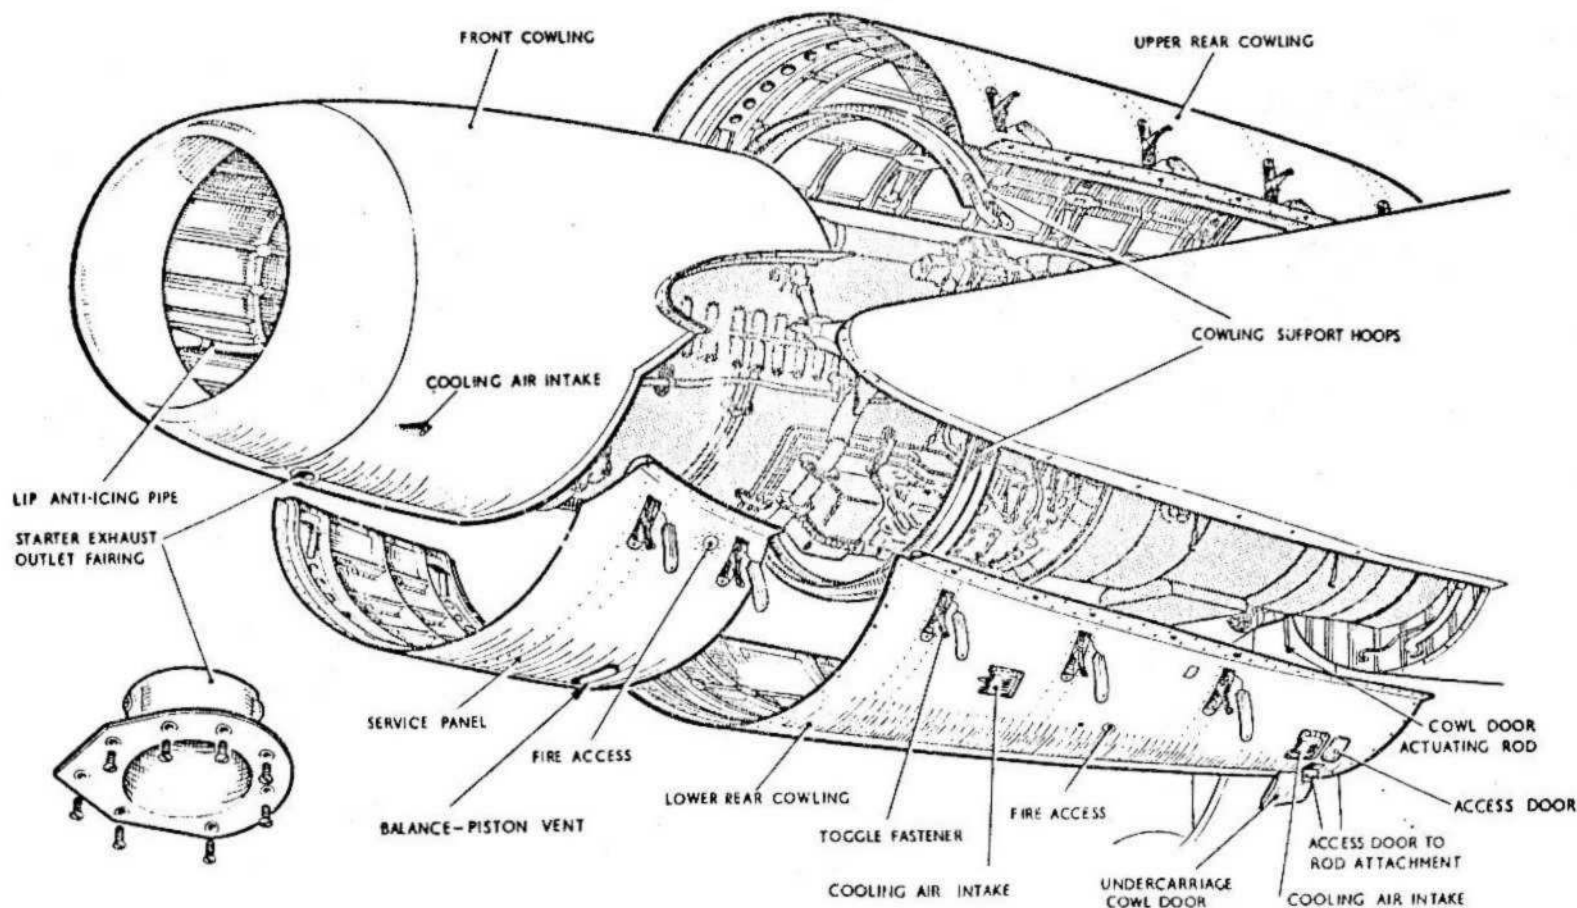
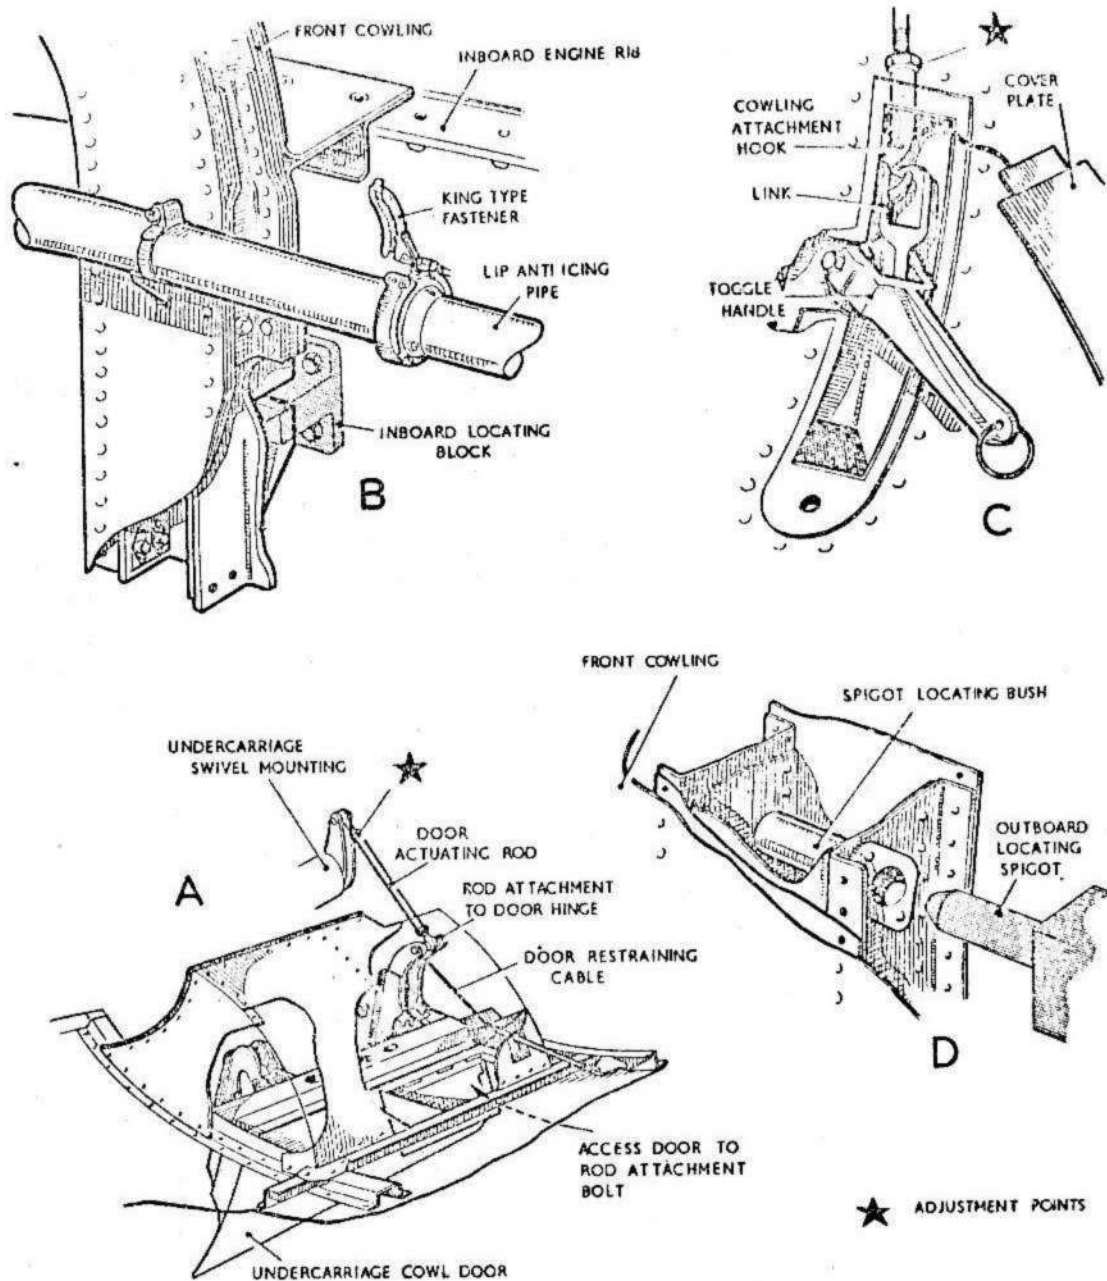

Fig.2 Cowling panels
Fig. 3. Cowling panel details
7. The engine cowl *fig. 2* consists of a front cowl, upper and lower rear cowl panels and a service panel, all of which are removable; upper and lower support hoops of reinforced top-hat section are attached to brackets at the top and bottom of vertical support channels on the inboard and outboard engine ribs. The front cowl, which is located on a spigot, detail *D*, *fig. 3* incorporated in the outboard front engine mounting bracket, and a support block detail *B*, *fig. 3*, on the engine inboard rib, extends aft at the top to the upper support hoop and to the service panel at the bottom, and is secured by screws which locate in anchor nuts on the inboard and outboard engine rib flanges, and secure the cowl to the upper support hoop; the front cowl incorporates cooling air intakes. The service panel which is fitted between the front and the lower rear cowl panels incorporates a cooling air outlet duct and gives access to the general servicing points on the engine; this panel is secured by four quick release toggle fasteners only. The upper and lower rear cowl panels extended aft from the support hoops to the firewall at the main spar. Both panels are secured by quick release toggle fasteners and Dzus fasteners at the edges abutting the engine ribs and screws along the rear edges. A small hinged door (*fig. 3*, detail *A*) which is operated mechanically by the movement of the undercarriage, is incorporated in the lower rear cowl panel; the mechanical linkage is by a rod to a lever on the bearing housing at the top of the undercarriage shock absorber. This rod must be disconnected before the panel can be removed; full instruction for removing the cowlings are given later in this chapter.
8. The quick release toggle fasteners (*fig. 3*, detail *C*), each consists of a toggle handle and spring-loaded link, which engages a hook-end on an adjustable tie rod attached to the engine ribs. Each fastener is secured by moving the toggle handle over-centre when it is recessed in the housing and protected by a flush-fitting cover plate locked by a Dzus fastener. To release a fastener, the cover plate is removed and the toggle handle raised by the ring in the end of the handle.
24. A small removable panel (Sect. 2, Chap. 4, fig. 3(2)) inset in the forward panel in the inner wing upper surface adjacent to the engine rib gives access to the I.P.N. fuel tank filler cap. The tank is of two-gallon capacity, and should be filled with iso-propyl nitrate fuel, Catelene B (AVPIN).